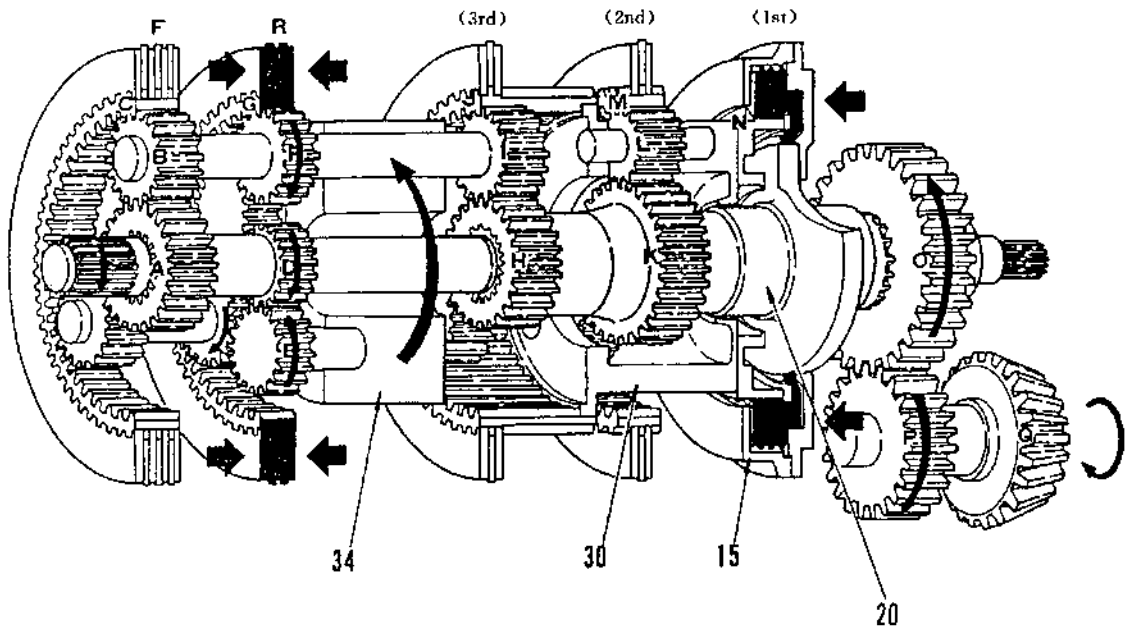

Fig. 2-24 Reverse 1st speed transmitting line
4. Reverse 1st speed transmitting line(See Fig. 2-24)